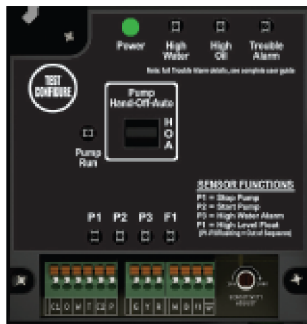

Figure 12
LED Test Pattern: Press and hold the test/configure pushbutton (Fig. 12) on the Oil Detection System control panel, the system will immediately begin a test pattern of the LEDs (all except pump run).
The preset level sensor wiring errors are automatically detected in the application by factory default settings. Holding the test/configure pushbutton (Fig. 12) for longer than 5-seconds will begin the device configurations routine.
- Press and hold the test/configure pushbutton (Fig. 12) in the Oil Detection System control panel for less than 5-seconds.